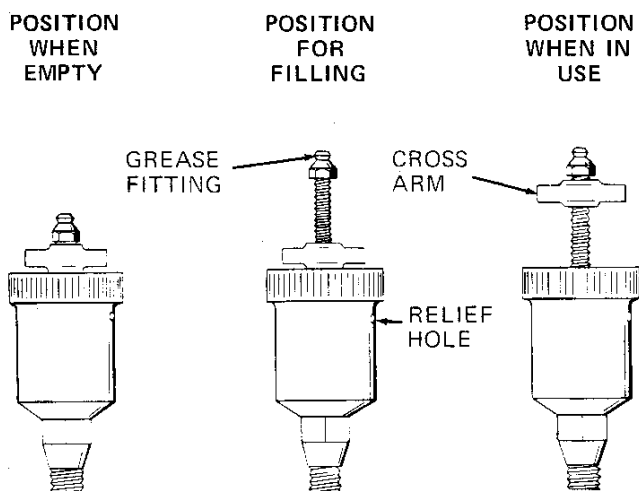

Figure 3. Automatic Lubricating Grease Cup
Before removing the seal assembly, turn the cross arm on the seal grease cup (57) clockwise until it rests against the cover (see figure 3). This will prevent the grease in the cup from escaping after the seal is removed.
Before starting the pump, fill the grease cup through the grease fitting with a good grade of No. 2 pressure gun grease until grease escapes from the relief hole. Turn the grease cup arm counterclockwise until it is at the top of the stem; this will release the spring to apply the grease to the seal (see figure 3).